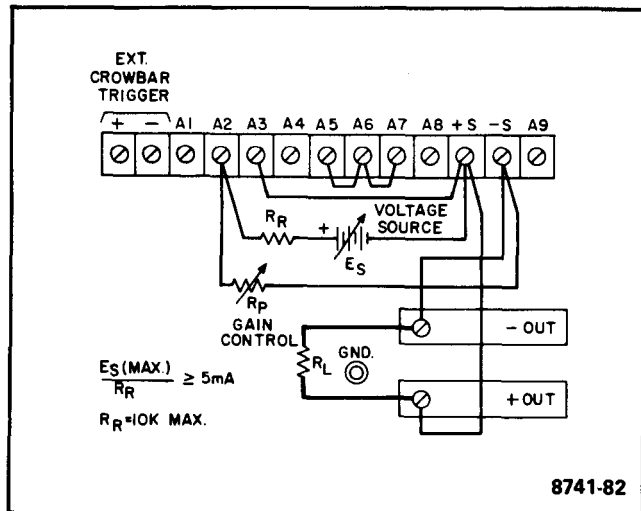

Figure 3-6. Voltage Programming of Output Voltage (Variable Gain)
**3-42 Constant Voltage Output, Voltage Input (Variable Gain).** In the remote programming arrangement shown in Figure 3-6, the series combination of external voltage source  $E_s$  and reference resistor  $R_R$  replaces the supply's internal voltage programming current source. As a result, the voltage this external current source develops across gain control  $R_p$  becomes the output voltage of the supply, and the gain relationship between  $E_s$  and the output voltage equals the resistance ratio  $R_p/R_R$ .